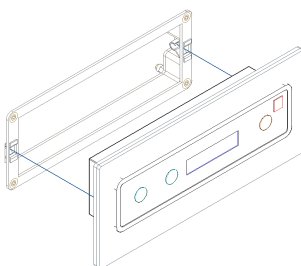

Figure 25 - Installing the display outside the device
5. With all the support fixed to the wall, the display can be placed on the finishing frame, fixing the display from the front and the box from the rear. We have to connect the two wires of the display and must take into account that the length must be enough to be able to remove without creating any problem or tension or interference of the cable. Finally, the frame must be fitted with the display by attaching the bolts to the fixing springs as shown in Figure 25.